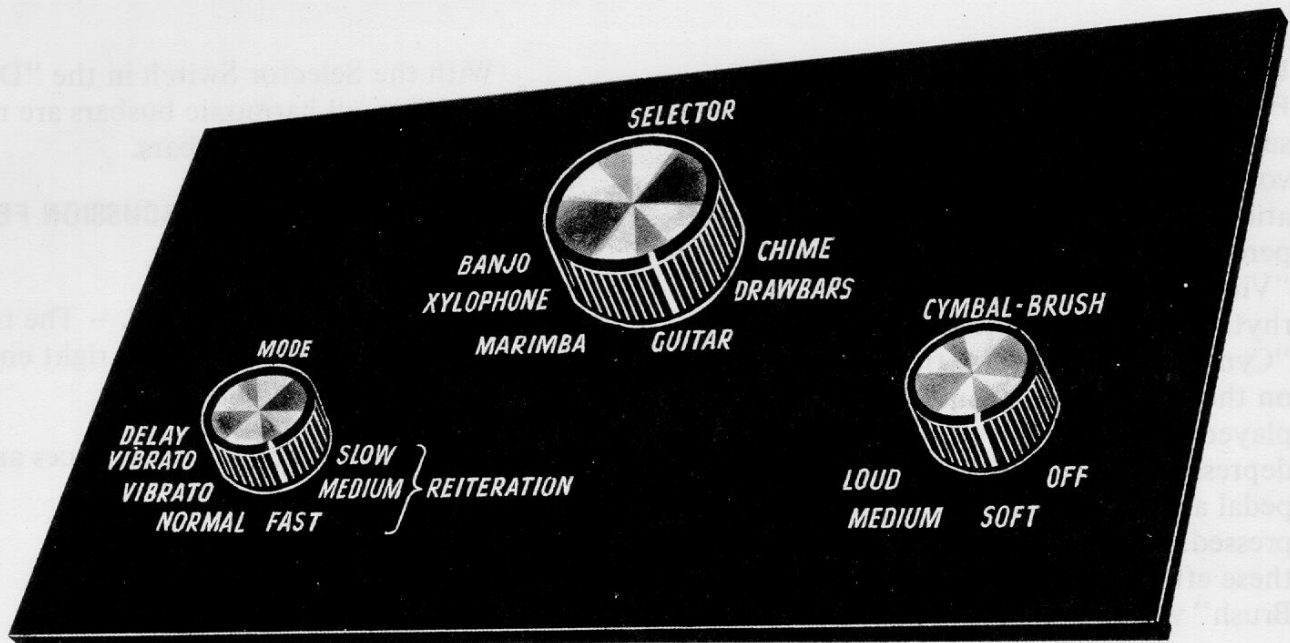

Figure 1-10. L-100A Preset Percussion Unit
**1-15. L-100A PRESET PERCUSSION UNIT (See Figure 1-10).**— When added to the L-100 series instrument, this unit adds five pre-voice percussion effects, including reiteration in three speeds. It also provides three percussion effects, “Normal (Non-Vibrato)”, “Vibrato”, and “Delayed Vibrato”. For the rhythm accompaniment it also provides a “Cymbal-Brush” effect, the “Brush” being on the lower manual, and available when played in a legato fashion each time a key is depressed. The “Cymbal” is available on the pedal and sounds each time a pedal is depressed. The “Cymbal-Brush” control turns these effects on and selects the “Cymbal-Brush” volume.